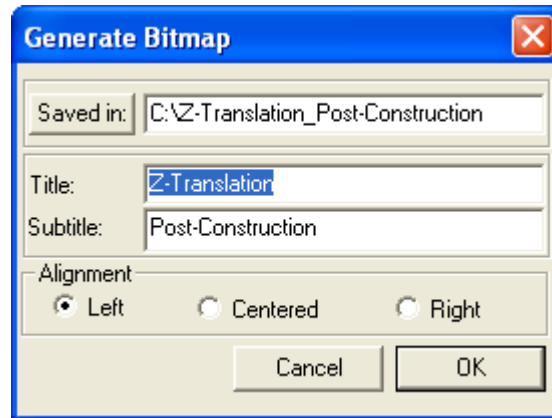

FIGURE 3.3-1 DIALOG BOX FOR SCREEN CAPTURE
-  **Generate a Bitmap.** Click on this tool to capture the 3D viewer image in bitmap format. You can ask the program to save this image for use in project reports or other purposes. Once clicked, the dialog window shown in **Fig. 3.3-1** opens. Note that apart from